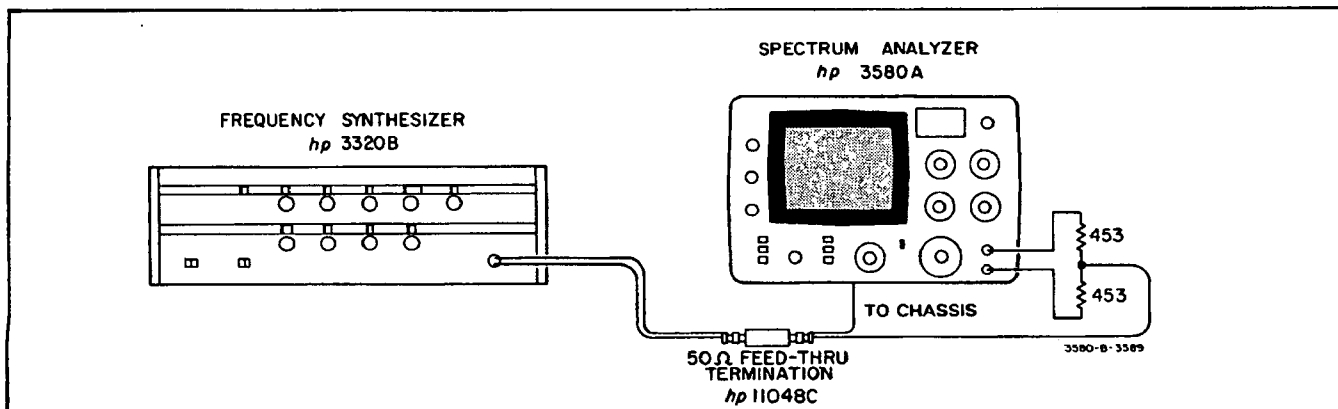

Figure 5-4. Common Mode Rejection Test.
e. Disconnect the synthesizer from the 3580A and connect two 453 ohm resistors in series between the INPUT terminals. (See Figure 5-4.)
f. Connect the synthesizer to the junction of the two resistors and to the chassis on the rear panel as shown in Figure 5-4. (Do not change the synthesizer amplitude setting.)